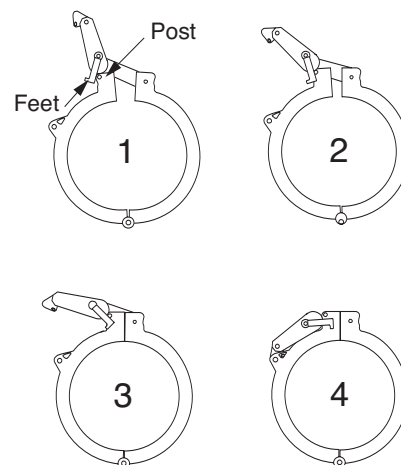

Figure 2
7. When the seal is cool to the touch, install the o-ring and the new dome. Install FOSC 400 B closure dome-to-base clamp as shown in Figure 2.